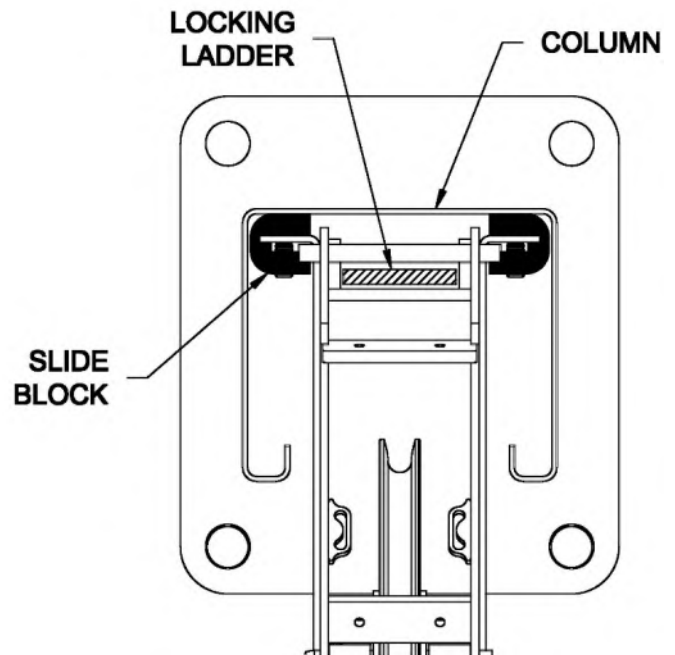

Fig 18 – Locking Ladder Orientation
- 22) Raise the locking ladder, push the column against the slide blocks, and lower the ladder into crossbeam slot, **Fig 18**. Remove the Wood 2" x 4"s and push the column so the slide blocks are in the rear of the column as shown in **Fig 18**.
- 29) Assemble each washer and nut to each anchor with the nut just below impact section of bolt. Drive the outer anchors into the other holes until nut and washer contact the base. Align the spacer over the two inside anchor holes on top of the baseplate and drive the anchors assembly in both inside holes, **See Fig 18**. The spacer is used to space the crossbeam off the floor. Tighten each anchor bolt to 150 foot-pounds and recheck column for plumb. Re-shim as required. Note the Front Spacer is wider than the Rear.